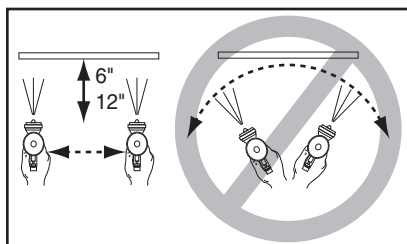

Figure 5. Spraying technique.
12. Keep gun tip perpendicular, parallel and 6"–12" from workpiece at all times when spraying (see **Figure 5**.) Do not allow your wrist to bend. This will cause gun to arc across surface and distribute material unevenly, possibly creating sags and dry spots.